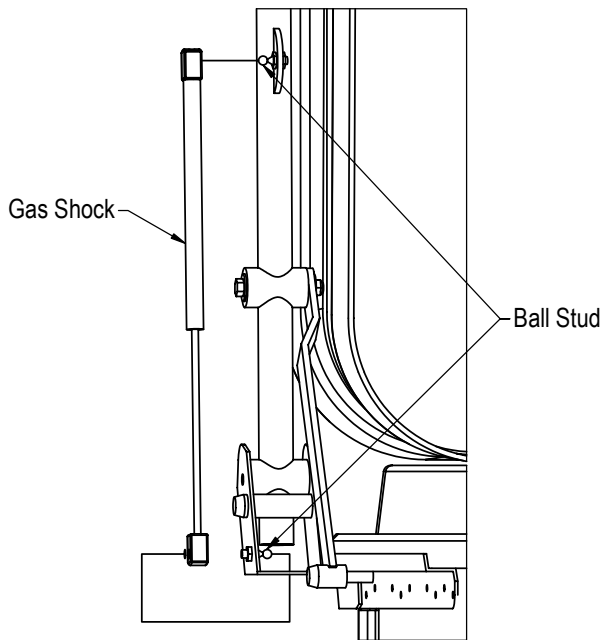

Figure 7 - Install Gas Shocks
Step 9 - Fold the cover over the Coupler/Support Arms and raise the cover to vertical. Install the Gas Shocks as shown in Figure 7 above by snapping the recessed ends over the ball studs.